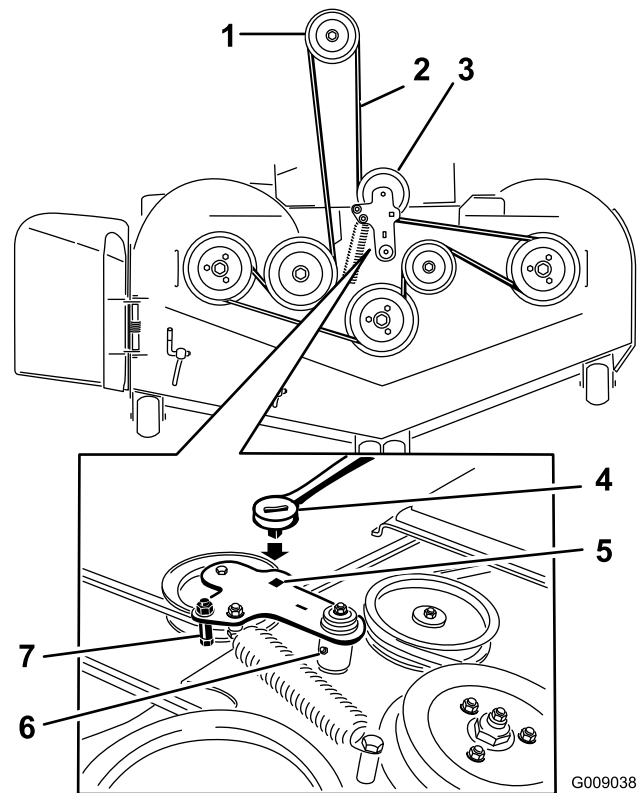

Figure 80
5. Use a ratchet in the square hole in the idler arm to remove tension on the idler spring (Figure 80).
7. Remove the belt guide on the spring-loaded idler arm shown in Figure 80.
9. Install the new belt around the mower pulleys and the clutch pulley under the engine (Figure 80).
10. Install the belt guide on the idler arm shown in Figure 80.
11. Using the ratchet in the square hole, install the idler spring (Figure 80).